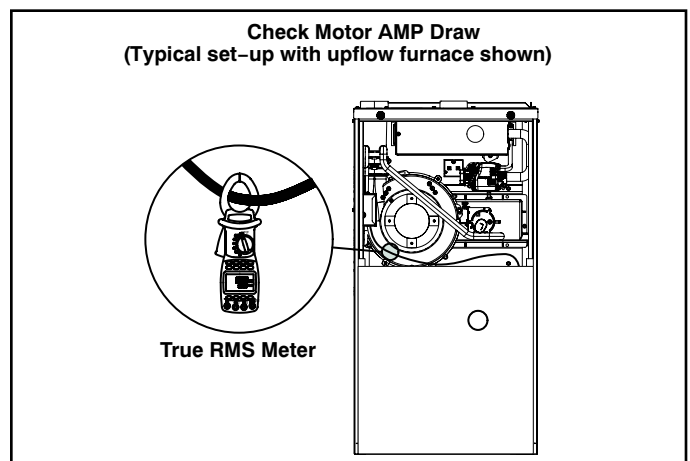

FIGURE 63
- 3 - Check amp-draw using a true RMS meter on the blower motor with blower access panel in place. See FIGURE 63.